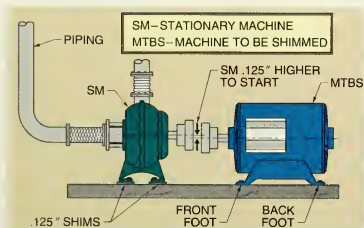

Figure 14-7. A machine is chosen as the MTBS because it is easier to move than the other machine, which may be larger or connected to piping.
Machine Movement Specification. Generally, the heaviest machine or the machine attached to plumbing is the anchored machine and is referred to as the stationary machine (SM). The motor is generally the machine moved and is referred to as the machine to be shimmed (MTBS). Either machine may be the moved and shimmed machine. Regardless of which machine is moved, the SM must initially be higher than the MTBS to allow for proper vertical alignment. A good practice is to initially install the SM using .125" shims under each foot. This practice requires raising the MTBS, but prevents any vertical movement requirements of the SM. See Figure 14-7.